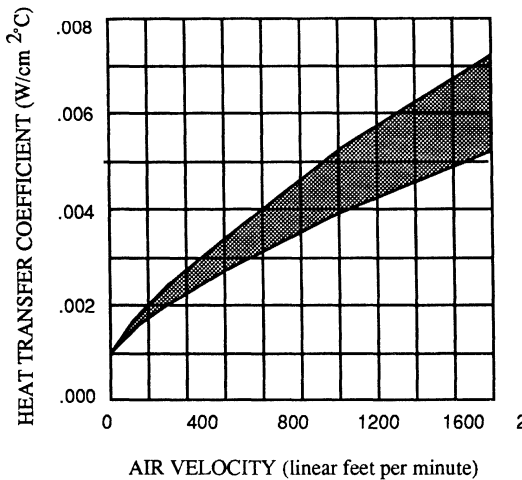

FIGURE 5: Heat Transfer Coefficients vs. Air Velocity
(assuming turbulent flow) where v is the air velocity in cm/sec, C_p , μ , p , and k are as defined in Table 1, and L is a characteristic dimension of the system [4]. It is reasonable to assign to L the length of the printed circuit board, in cm. Figure 5 shows the heat transfer coefficient as a function of air velocity for a range of "L" from 5 cm (high curve) to 20 cm (low curve). As a point of reference, 600 to 1000 lfpm air velocities are readily achievable in present-day ECL based systems. State of the art air-cooled systems achieve up to 1800 lfpm.
heatsink is intended for use with the 36 I/O packages. The 90GHS-40-A and 90GHS-40-B heatsinks are slightly larger and are intended primarily for use with the 40 I/O packages, although they can be used with the 36 I/O packages (these heatsinks will be referred to as 36A, 40A, and 40B, respectively, throughout this application note.) The effective surface areas of the 36A, 40A and 40B heatsinks are 7 sq cm, 12 sq cm, and 24 sq cm, respectively. Using Figure 5 and equation (3), it is seen that the heatsink to ambient thermal resistances at 600 lfpm are approximately 46, 27, and 13 °C/W, respectively.